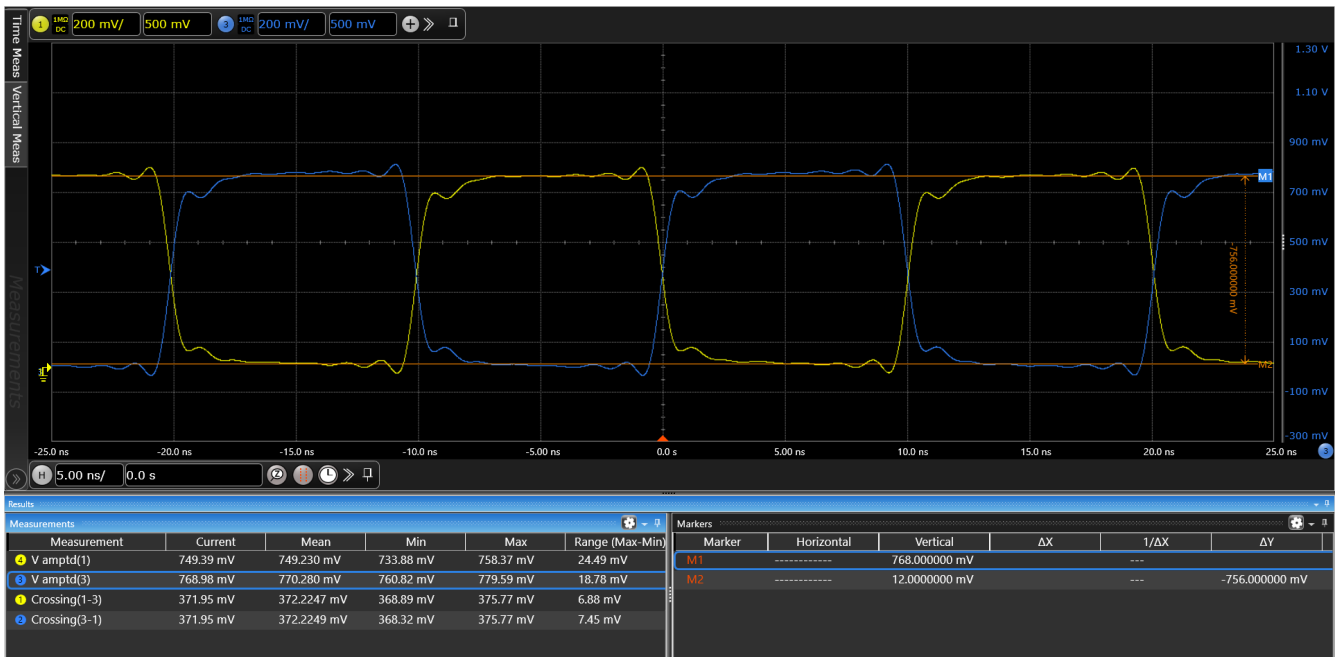
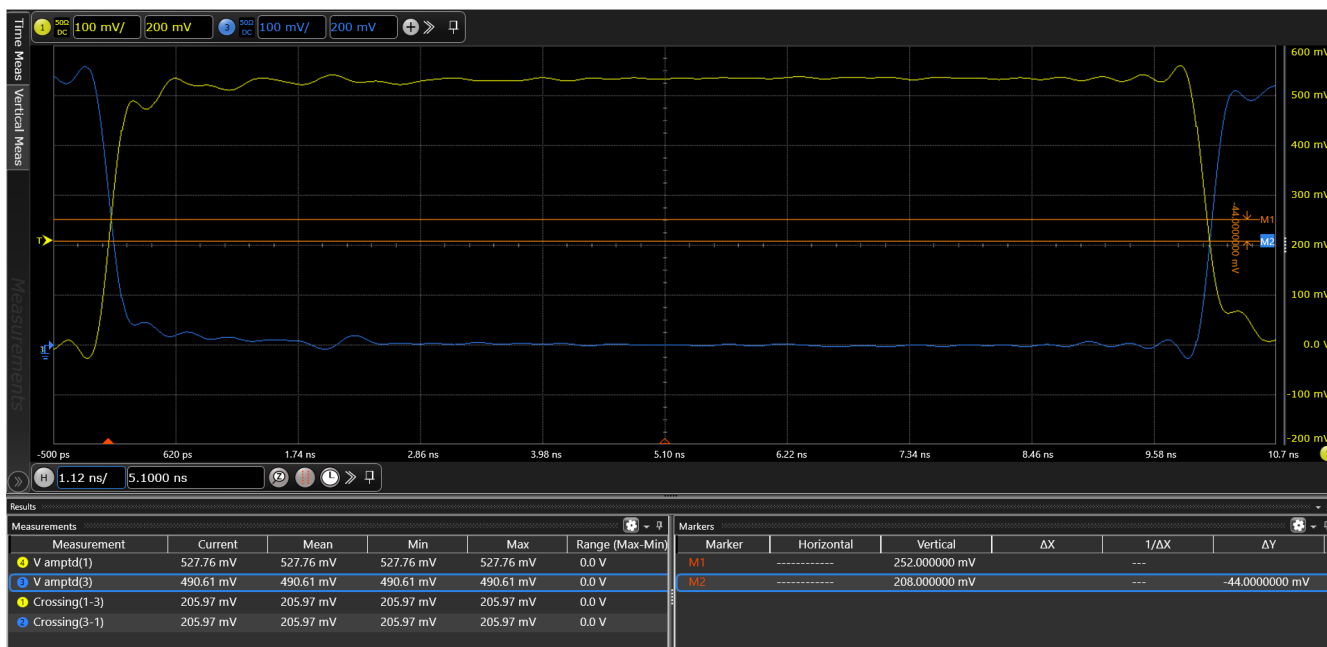

Figure 11. Vovs – HCSL Internal Termination, Boost = 0% on OUT0 (yellow trace) and nOUT0 (blue trace)
Figure 28. Vcross – HCSL Dual Termination, Boost = 30% on OUT0 (yellow trace) and nOUT0 (blue trace)
- Figure 11. Vovs – HCSL Internal Termination, Boost = 0% on OUT0 (yellow trace) and nOUT0 (blue trace)6
Table 1 lists the HCSL measuring data on the FC3W evaluation board for a variety of termination schemes. Waveforms for each case are shown in Figure 11 to Figure 28. For these figures, the yellow waveform is OUT0 and the blue waveform is nOUT0. For more information on the EVB test method, see FC3 EVB Waveform Measurement Method.